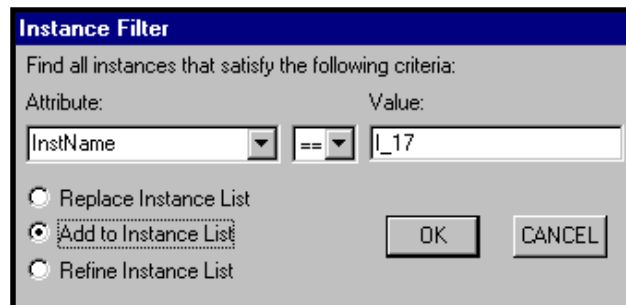

Figure 4-8. Instance Filter Dialog Box
2. Click the **Find** button. The Instance Filter dialog box is displayed (Figure 4-8).